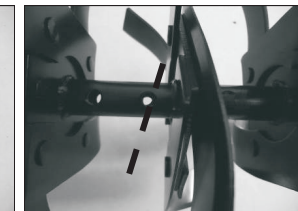

Fig. 2C
2. Align the hole of the shaft. (Fig.2C)